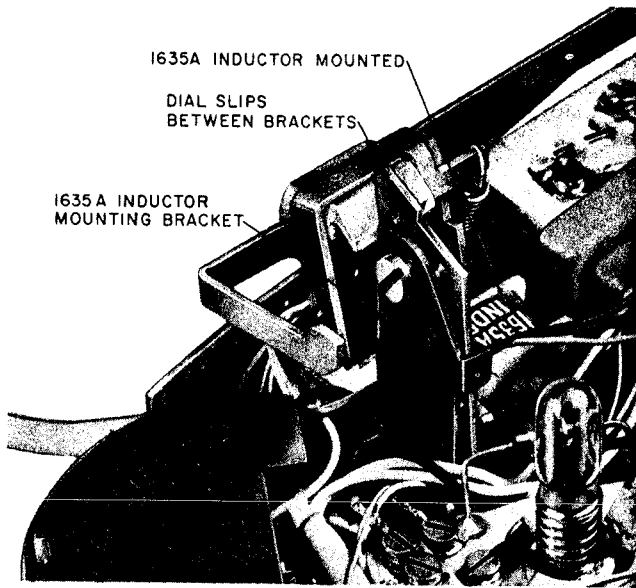

Fig. 10 — 1635A Inductor Mounted in 701B Telephone Set
- (1) Remove housing from telephone set.
- (2) Loosen dial and lay it aside.
- (3) Remove left screw from dial mounting bracket.
- (4) Install inductor as shown in Fig. 10.
- (5) Replace screw in dial mounting bracket.
- (6) Connect inductor between terminals B of network and 3 of terminal board.
- (7) Replace dial and housing.